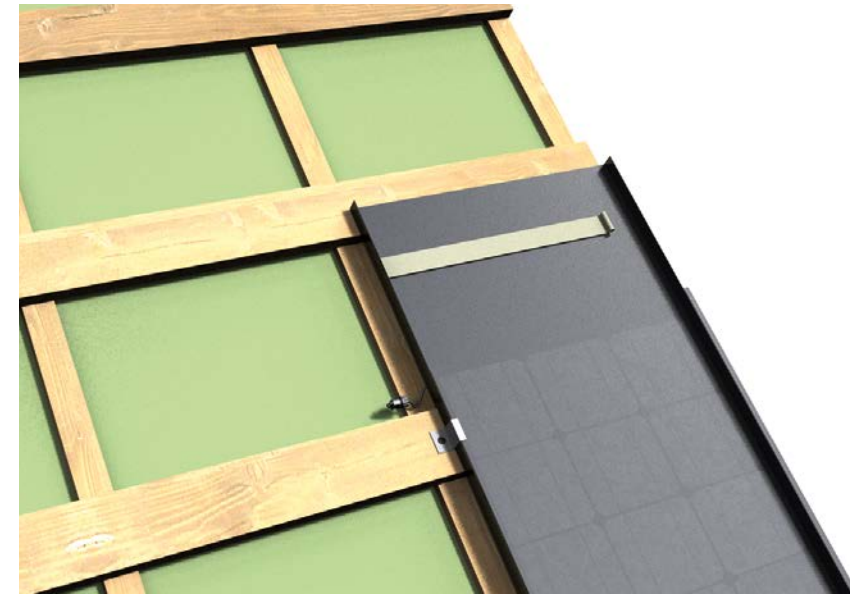

Fig. 12
- c.** Putting double tape to the overlapping area of Roofit.solar panel that will join regular metal panel (Fig. 12).